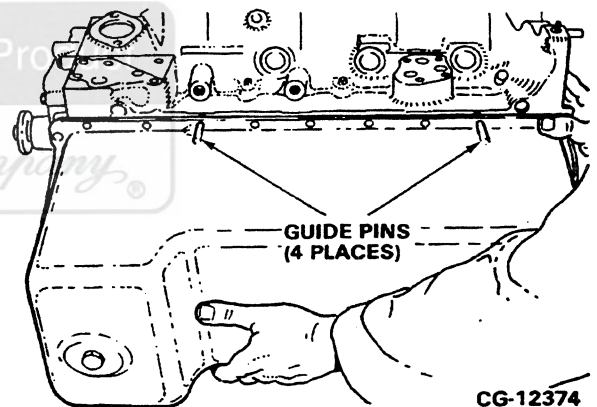

Figure 6.64. Install Oil Pan Using Guide Pins
8. Install oil pan onto crankcase within 10 minutes of R.T.V. application. The use of guide pins is recommended as shown in Figure 6.64.